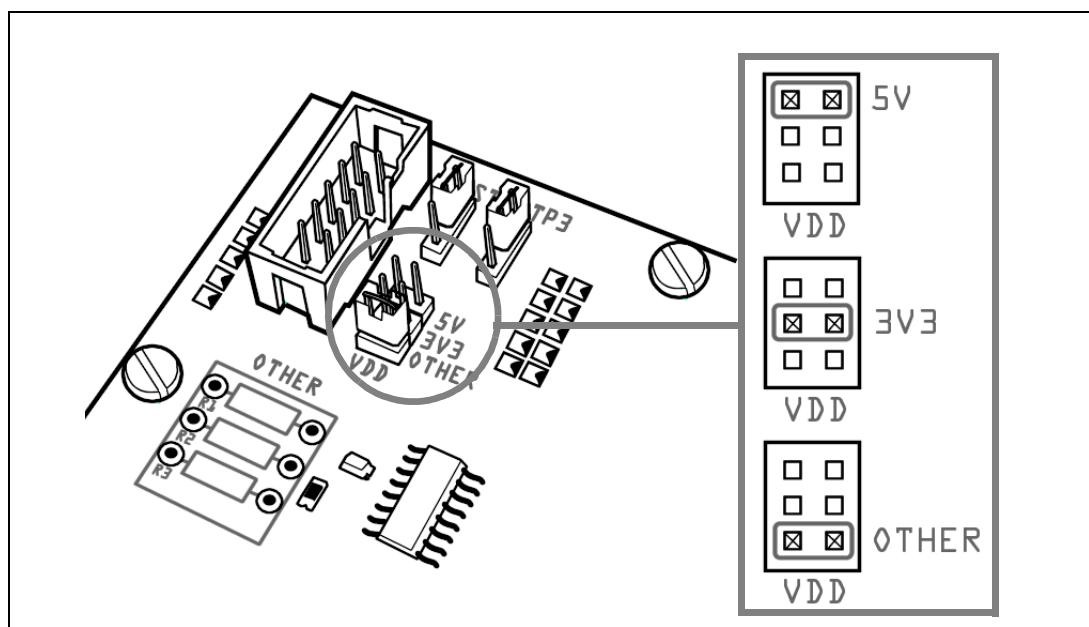

Figure 2: Setting the VDD jumper
To select 3.3V or 5V, simply set the **VDD** jumper to the appropriate position, as shown in *Figure 2*.
- 3 Set the **VDD** jumper to the **OTHER** position (see *Figure 2*).